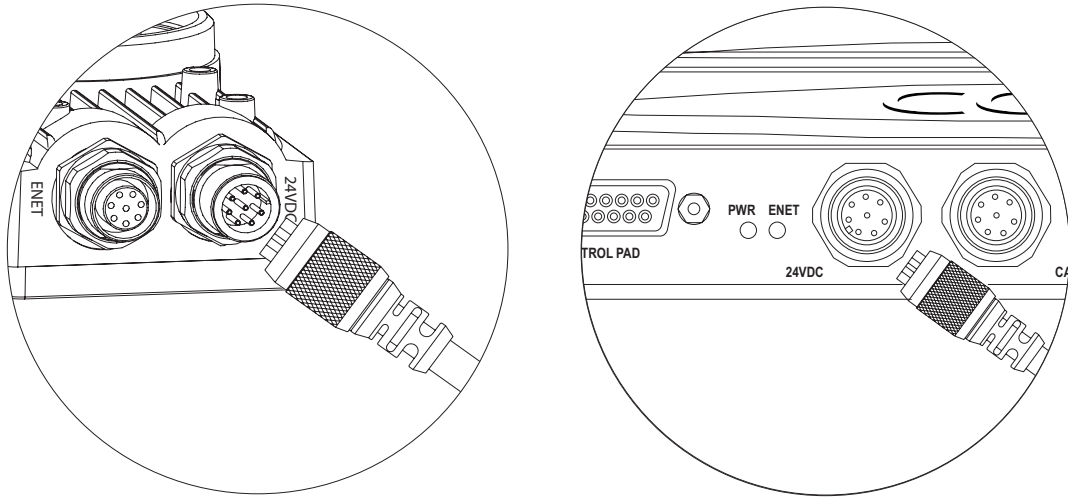

Figure 2-3: Connecting the Expansion Module to an In-Sight Sensor
8. Connect the other end of the I/O Cable (keyed M12 connector) into the In-Sight sensor's breakout port (labeled 24VDC) as shown in Figure 2-3.